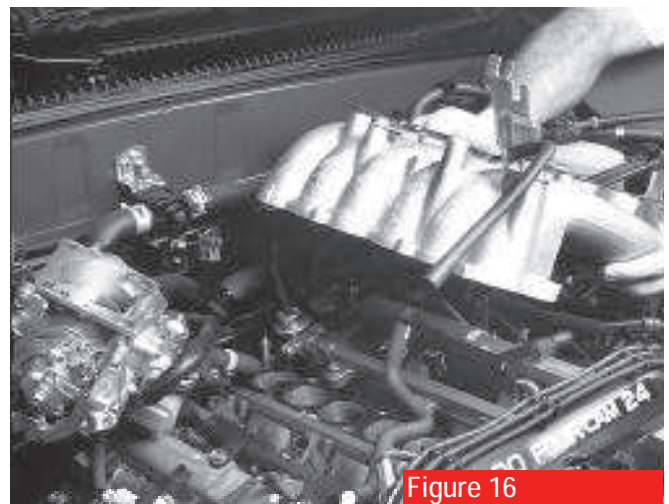

Figure 16
23. Remove the lower manifold **(figure 16)** and save the factory nuts, washers and two short bolts, as they will be reused.